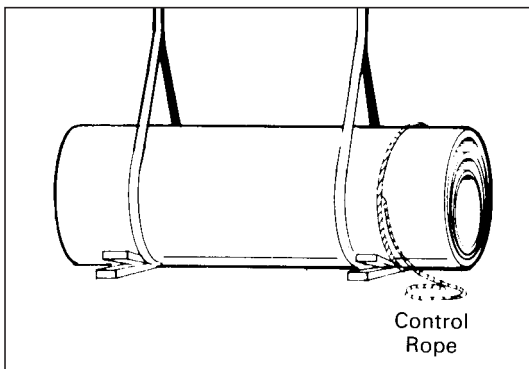

Figure 2.6
1. Always lift the nested bundle using at least two pliable straps (*Figure 2.6*). Limitations, if any, for spacing between straps and lifting locations will be specified for each project. Insure that the lifting slings have sufficient capacity for the bundle weight. This may be calculated from the approximate pipe weights given in *Appendix A*.